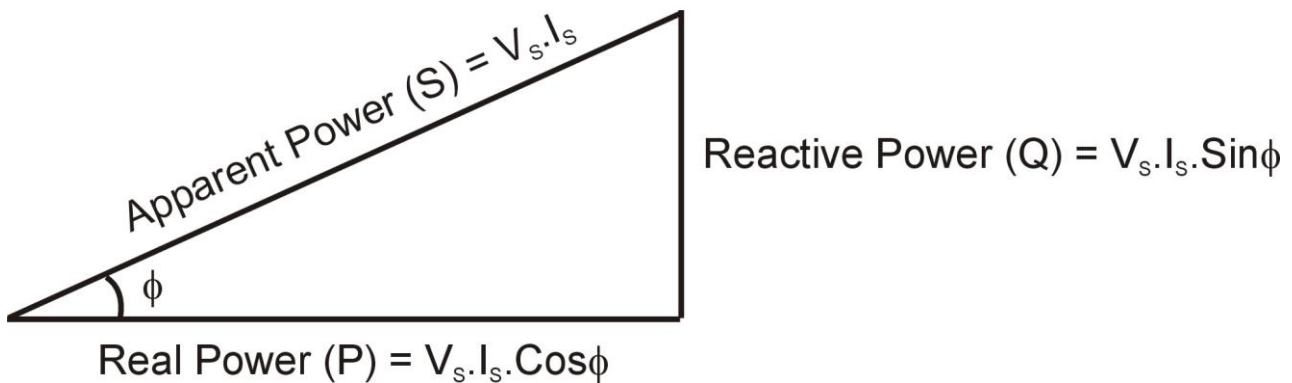

Figure 2: Power Triangle
Note: Real Power (P) and Power Factor are related to Apparent Power (S) and Reactive Power (Q) through the power triangle as shown on Figure 2